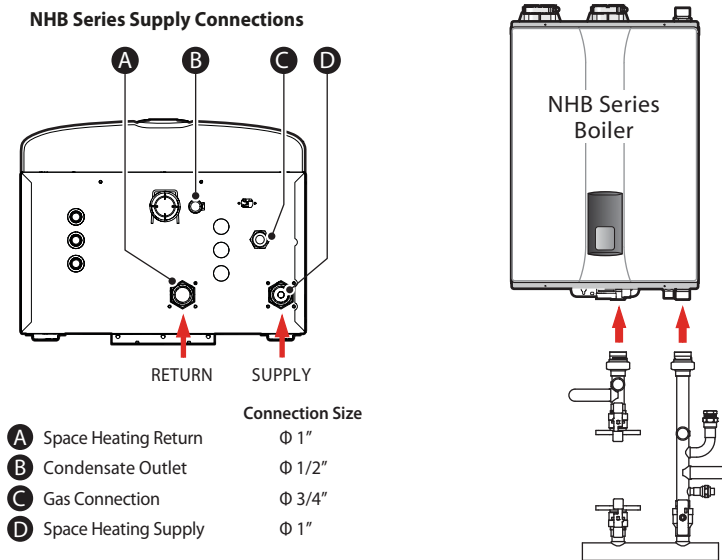

FIGURE 1: Supply and Return Connections on the NHB Series Boiler
- Apply thread sealant to the 1" Heating RETURN and SUPPLY fittings located at the bottom of the boiler unit (see **FIGURE 1**).